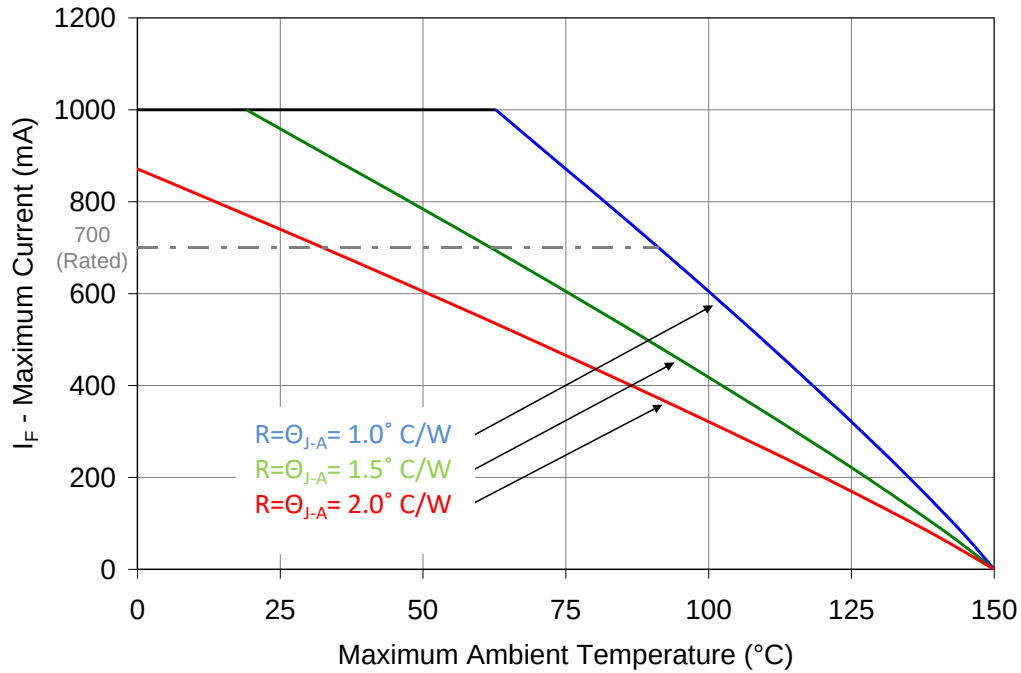

Figure 10: Maximum forward current vs. ambient temperature based on $T_{J(\text{MAX})} = 150^\circ\text{C}$.
- Maximum DC forward current (per die) is determined by the overall thermal resistance and ambient temperature. Follow the curves in Figure 10 for current de-rating.